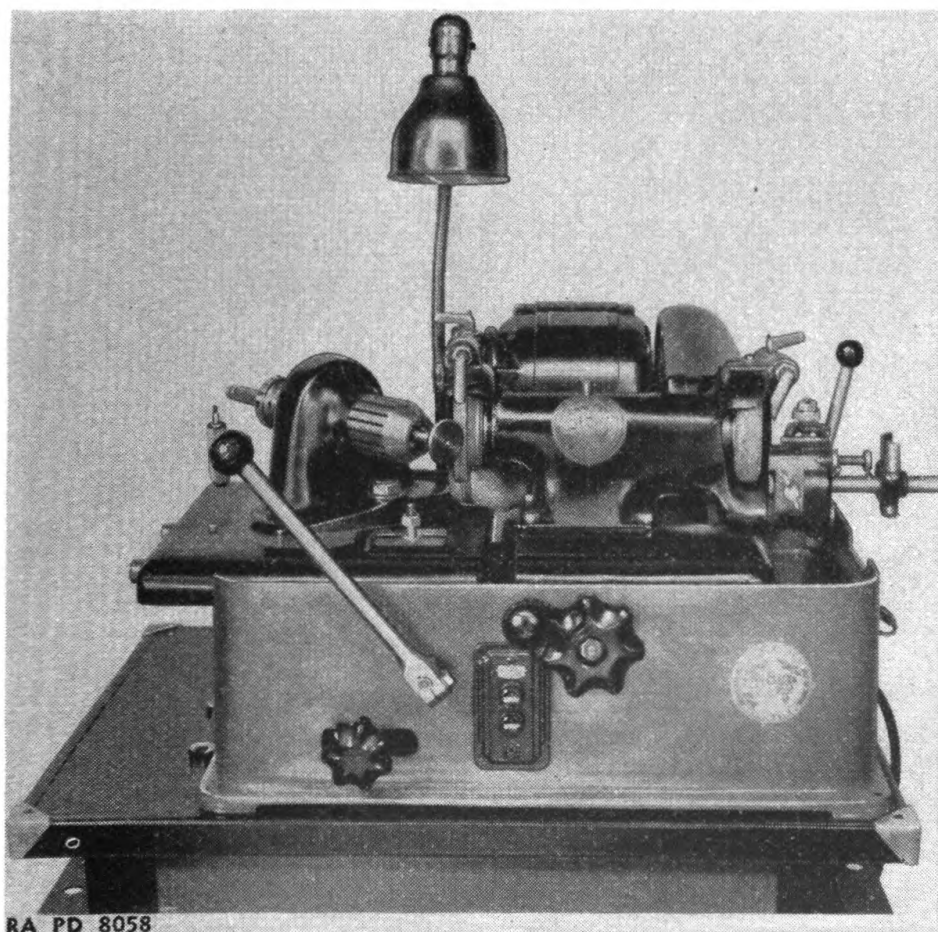

FIGURE 147.—Valve refacing.
(8) *Refacing valves.*—Install valves in a suitable grinder as shown in figure 147, and after making sure that grinding wheel is properly trued, set chuck at a 45° angle and take a light cut from the face of the valve. Care should be taken while grinding not to remove too much material from valve face.